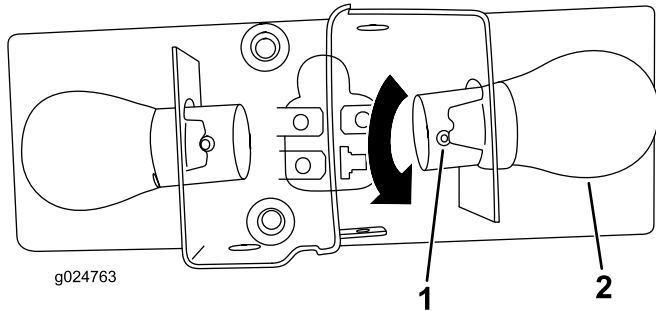

Figure 70
4. Pushing down on the pin on the light bulb, rotate the light bulb to the left, and pull the light bulb out (Figure 70).
6. Rotate the new light bulb to the right until the pin of bulb aligns with the slot in the light-bulb casing (Figure 70).